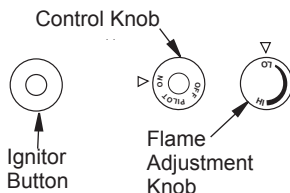

Figure 39 - Control Knob and Ignitor Button Location
3. Press in and turn control knob clockwise  to the OFF position (see Figure 39).
- Wait five (5) minutes to clear out any gas. Then smell for gas, including near the floor. If you smell gas, STOP! Follow B in the safety information, page 26. If you don't smell gas, go to the next step.
- Press in and turn control knob counter-clockwise ↶ to the PILOT position. Press in control knob for five (5) seconds (see Figure 39, page 24).